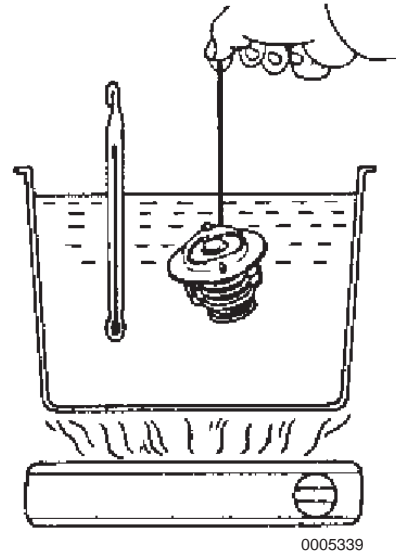

Figure 7-11
6. Immerse the thermostat in water and slowly heat it (**Figure 7-11**). The valve opening temperature is indicated on the thermostat.